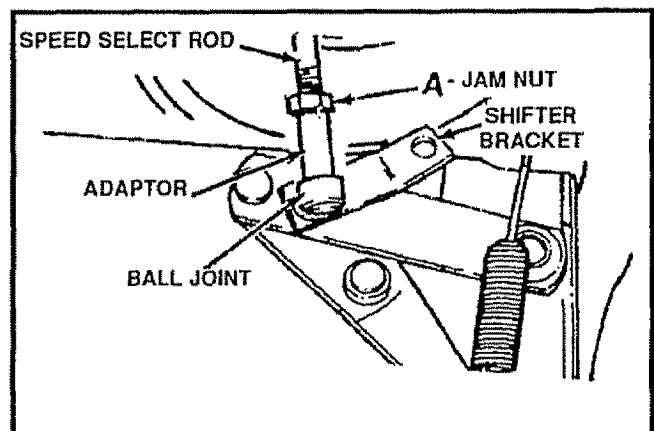

FIG. 31
- Loosen the jam nut "A" on the speed select rod. Remove the ball joint from the shifter bracket. Lengthen or shorten the rod by turning the adaptor to obtain the correct friction wheel position (See Fig. 31)